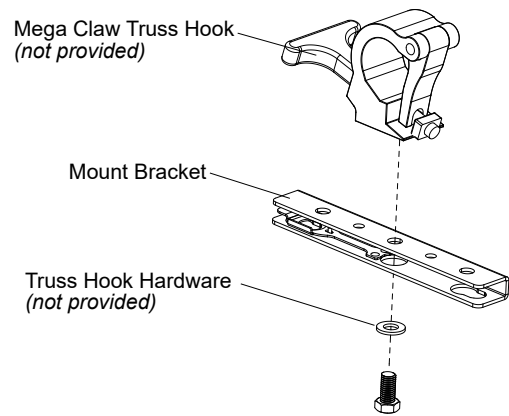

Figure 3: Truss Hook Installation
- Step 1. Install truss hooks on two provided truss hook brackets as required as shown in **Figure 3**.